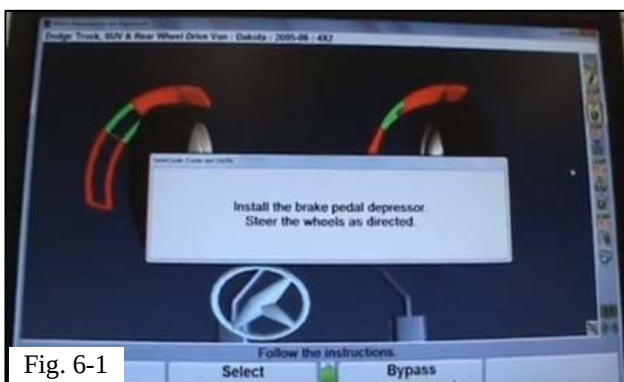

Fig. 6-1
- (i) Perform Caster reading procedure as instructed by the computer (Fig. 6-1).